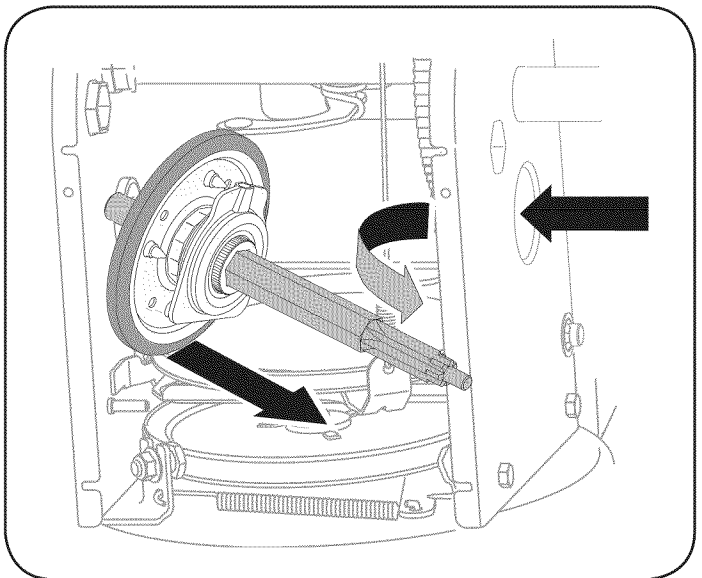

Figure 34
- Carefully position the hex shaft downward and to the left before carefully sliding the friction wheel assembly off the shaft. See Figure 34.